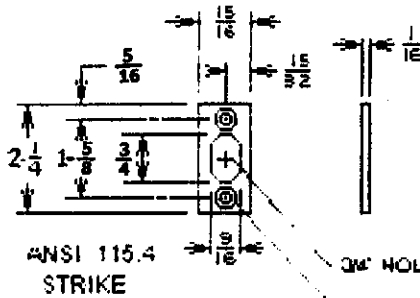

FIGURE 2
2. PREPARE FRAME FOR ANSI A115.4 STRIKE AS IN FIGURE 2. LOCATE STRIKE TO LINE UP WITH BOLT. INSTALL STRIKE.
3. INSTALL TRIMCO 3910 OR 3911 DUST PROOF STRIKE IN FLOOR. (TEMPLATE AVAILABLE) OR ANSI A116.4 STRIKE SHOWN IN FIGURE 2. LOCATE STRIKE TO LINE UP WITH BOLT. INSTALL STRIKE.